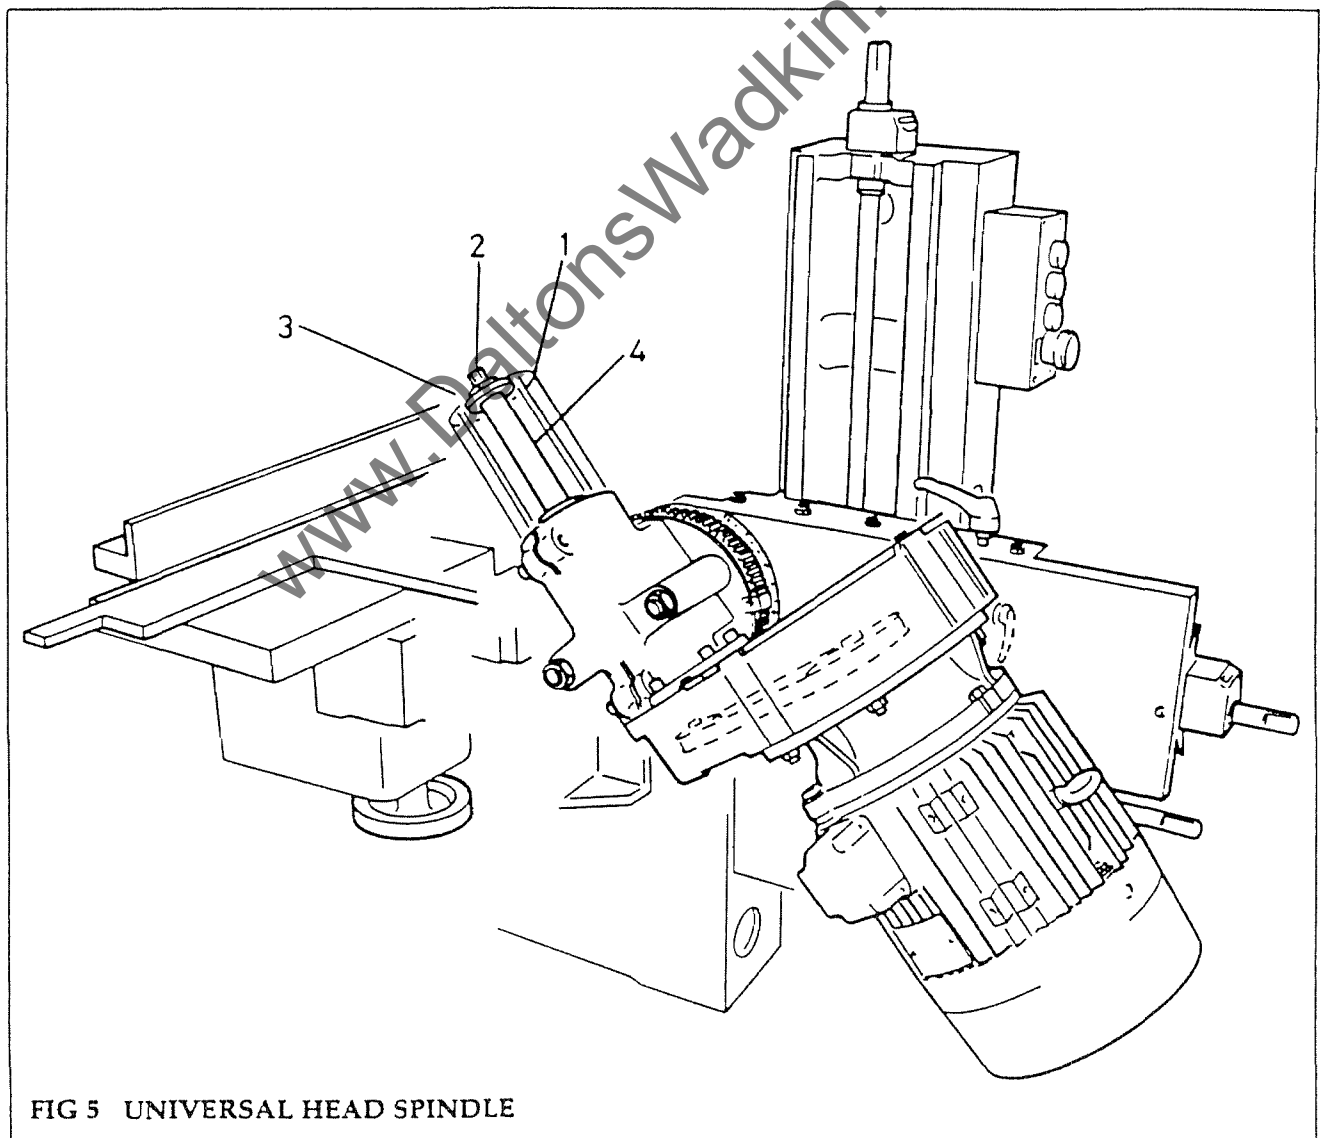

FIG 5 UNIVERSAL HEAD SPINDLE
**UNIVERSAL HEAD (fig 5) - if fitted**
- (1) Remove guard for access, remove existing cutterblock as follows:
- a. Release cutterblock (1) using the combination spanner provided on the spindle hexagon (2) and the two flat faces of the cutterblock locknut (3).
- (2) Check that the spindle flange and the flange end of the replacement cutterblock are clean.
- (3) Slide the new cutterblock (1) onto the spindle (4) and tighten using the combination spanner provided.
- (4) Check direction of cut. Ensure the locking collar (3) is fitted.
**NOTE:** In the bottom head position always change the cutterblock from the rear of the machine. However, in the vertical mode it is possible to change the cutterblock from the nearside, using a similar procedure. (See fig 21 for Universal head modes). Fig 5 shows the head in the near side vertical (angled or canted) mode.